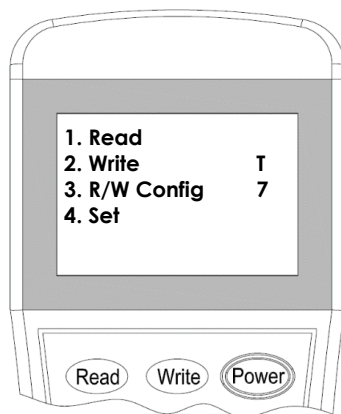
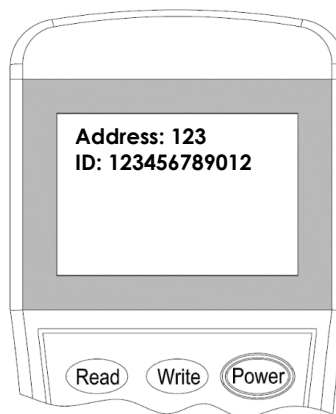

Figure 6
Figure 7
2. Switch-on the programmer, then press button **“Read”** or **“1”** to enter to Read mode (Figure 6). The programmer will display the configuration after few seconds. (Figure 7).